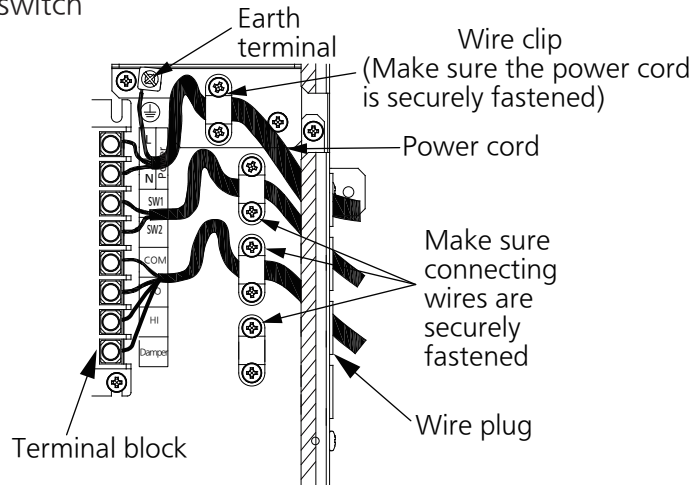
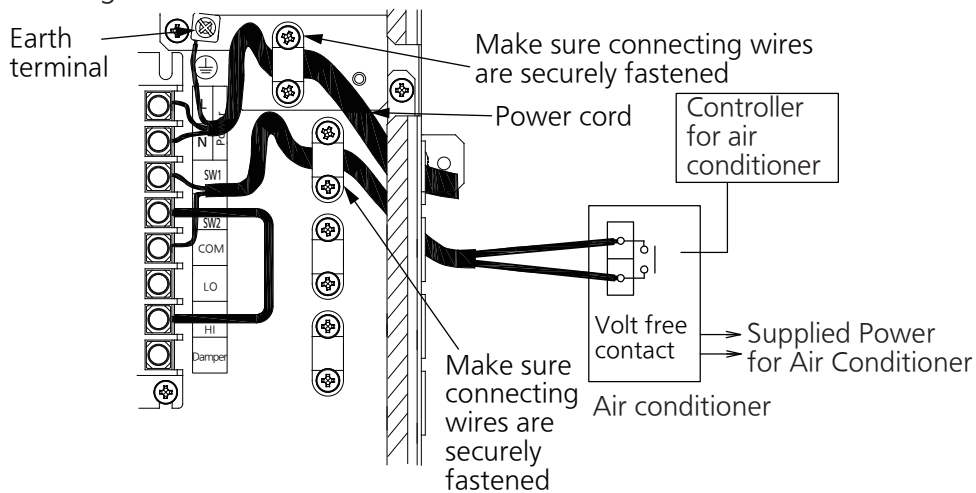

Figure 4
Figure 5
- ④ Insulate the ducts (2) directly exposed to outside. (Figure 4)
- ⑤Connect wires at the corresponding positions. (Figure 4 and Figure 5)
- (1) It is recommended to use the wire (soft wire) with rated voltage 300 V/500 V to link power supply cord with switch as stipulated in 60227 IEC 53.
- (2) Use 3 core wire containing green/yellow wire, each core wire should have cross section area of 2.5 mm². (Perform wiring according to the local laws and regulations)
- (3) Use 2 core wire to link the terminal SW1, SW2 with switch, additionally, please use 4 core wire to link the other terminals with switch, each core wire should have cross section area of 2.5 mm². (Perform wiring according to the local laws and regulations)
(5) If utilising the function to interlock with an air conditioner, use a single-core wire with the cross section area of 2.5 mm² to connect the terminal SW2 to HI, as shown in Figure 5; use 2 core wire with the cross section area of 2.5 mm² to connect the terminal SW1, COM to the volt free contact. (Perform wiring according to the local laws and regulations).
⑥ Fasten the ground wire (yellow and green wire) of the power cord to the earth terminal. (Figure 4 or Figure 5)